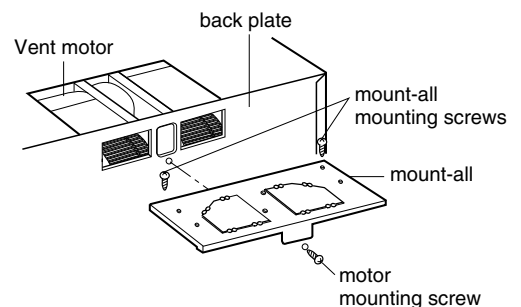

Figure 12
3. Detach mount-all from out case by removing two mount-all mounting screws and one motor mounting screw. See figure 12.